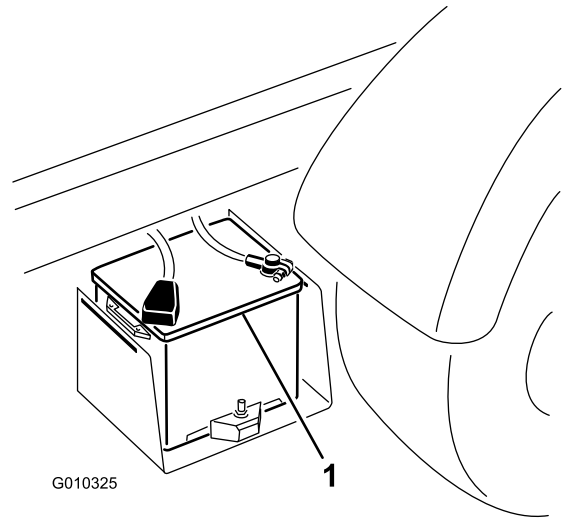

Figure 53
2. Connect a jumper cable between the positive posts of the two batteries (Figure 53). The positive post may be identified by a + sign on top of the battery cover.